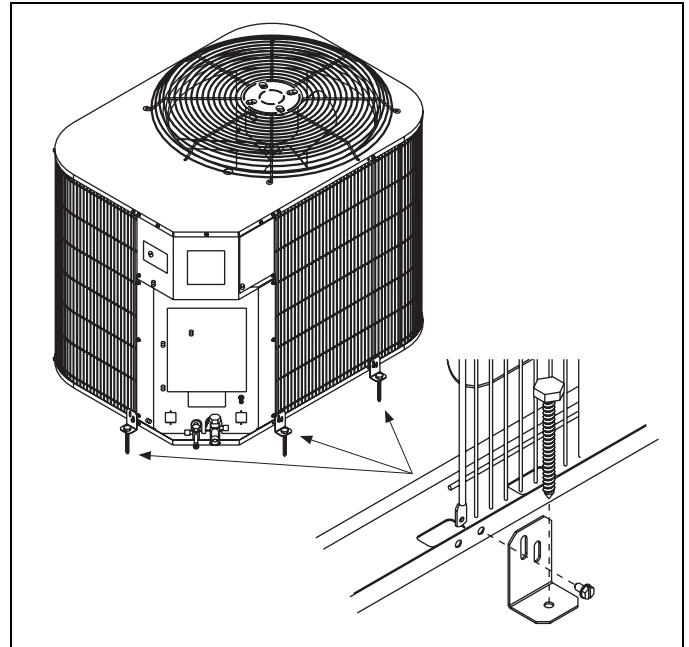

FIGURE 1: Bracket Assembly
1. Set the bracket against the unit as in Figure 1. The bracket should sit flush on the concrete, and line up with existing hole in base. Two brackets per long side for rectangular base units. Square base units require one bracket per side. Using a marker of some sort, mark where the holes need to be drilled on the concrete pad. Remove brackets.